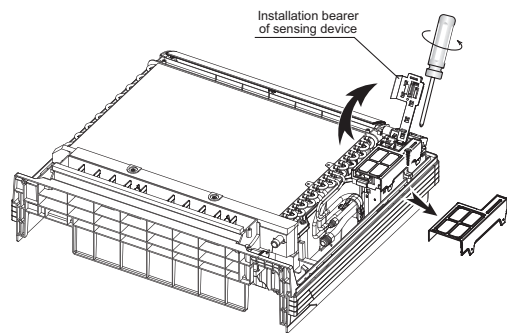

Fig. 26 — Remove the installation bearer
- 1. Remove the sensing device’s installation bearer (see Fig. 26).